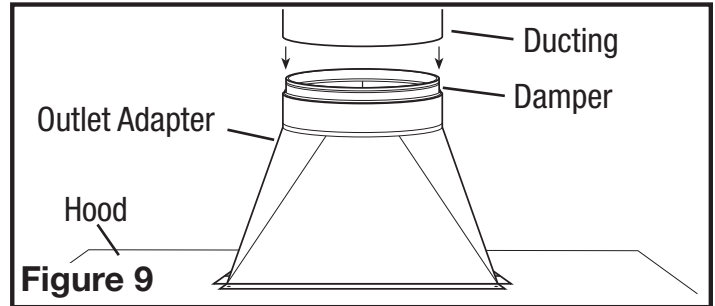

Figure 9
4. Connect the ducting to the outlet adapter and damper. Secure in place using tape to seal all joints (Figure 9).